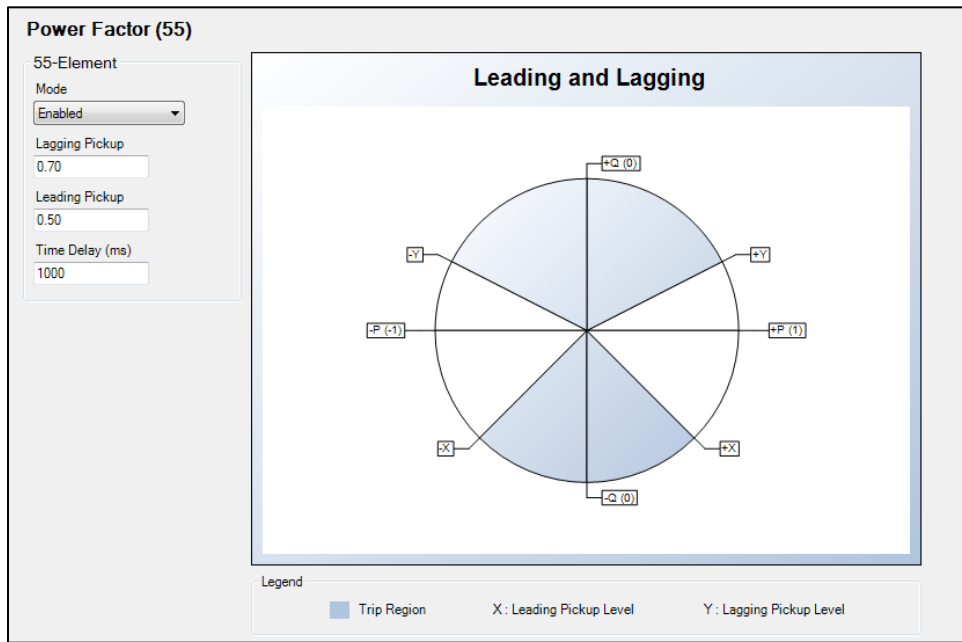

Figure 18-2. Power Factor Settings Screen
Power factor operational settings are configured on the Power Factor (55) settings screen (Figure 18-2) in *BESTCOMSPlus*.